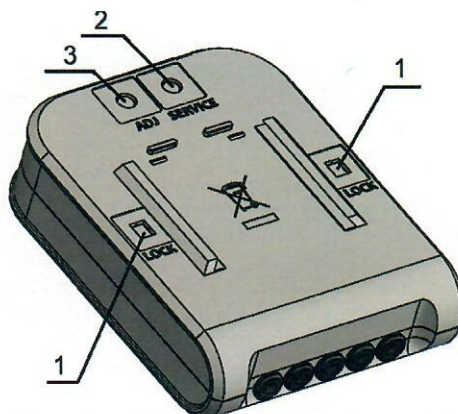

Fig.6. Sealing of the calculator of the heat meter
The newly manufactured complete meter calculator shall not be subject to additional sealing. Access to the calculator cover release latch (Fig. 6, pos. 1), the parameter change and test mode activation contacts (Fig. 6, pos. 2) and adjustment data activation contacts (Fig. 6, pos. 3) is protected by easy break-out screens.
When the abovementioned casing screens are break-out (after opening the calculator casing, changing the meter\* parameters, adjusting the meter or activation the test mode), open slots are sealed with metrological seal-stickers (pos. 1 and pos. 3) and with the protective seal-sticker of heat supplier (Fig 6, pos. 2).
Remove the screen „SERVICE“ on the back of the calculator or, if the screen has already broken down, a protective seal-sticker is removed (Fig. 6, pos. 2 of this appendix), or, for a combined device, opens the calculator box. By short-circuiting the contacts „SERVICE“, the SERVICE mode is activated, symbol „<->“ and sign „TEST“ are displayed on the LCD.